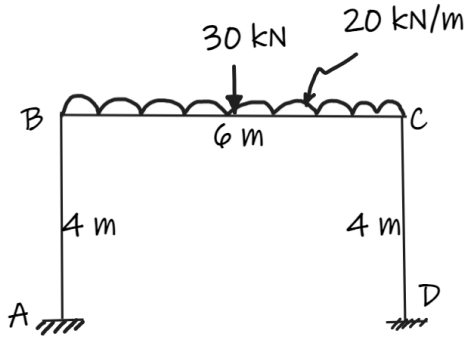

Fig.2 Q.1(c) OR
- (c) Give static indeterminacy and kinetic indeterminacy for portal frame shown in Fig.2. Draw bending moment diagram for given continuous beam. Use Moment Distribution Method. **07**